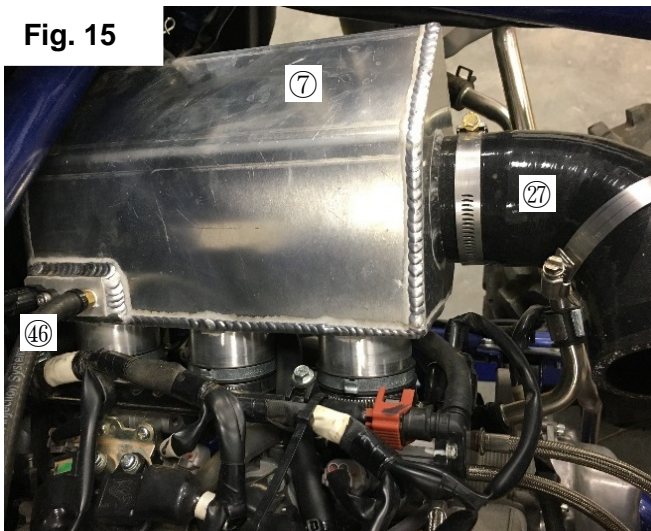

Fig. 15a
- 22 Use a 2.5" hose clamp (57) to attach a Silicone 90 Elbow 2.5" (27) onto the inlet tube on the intake manifold. The other end of the Silicone elbow points across the vehicle. Place another 2.5" hose clamp (57) over the end for the air cooler. Remove the lower mounting bolt for the oil tank. Install the Intake Bracket (15) with the round facing the intake manifold. Reinstall the lower oil tank bolt through the bracket. Secure the bracket to the intake with 1 M8x25mm Flange Bolt (50) and 1 M8 Nylock Nut (51) as shown in Fig. 15a.